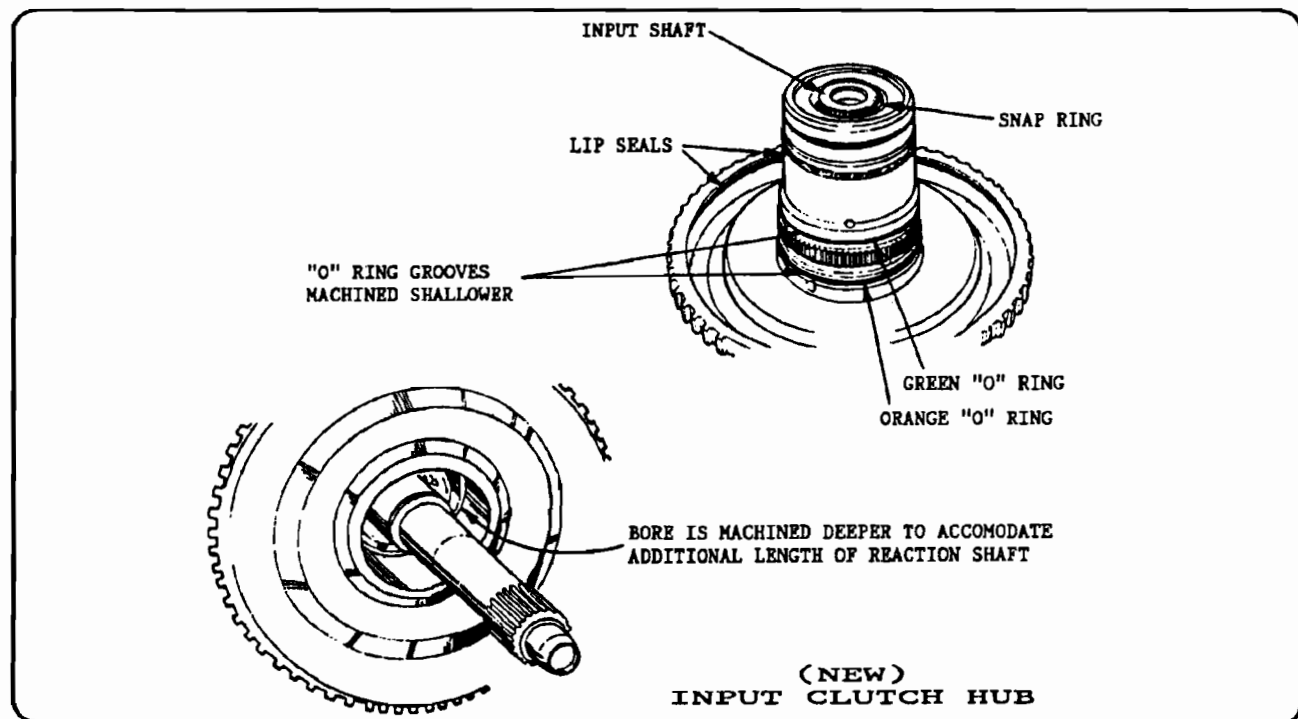

Figure 2
- (2) INPUT SHAFT/CLUTCH HUB - The new Input Clutch Hub bore is machined deeper to accommodate the additional length of the reaction shaft, created by the added sealing ring (See Figure 2).
The "O" Ring grooves are also cut shallower than the old input clutch hub, which increases the groove diameter, and provides improved compression or "Crush", between the "O" rings and the input clutch retainer. (See Figure 2).
- (3) INPUT SHAFT/CLUTCH HUB "O" RINGS - The new "O" Rings are "Teflon Coated" for greater tear resistance during the assembly process. The coatings also identify the locations for the "O" Rings. The orange ring goes to the front, and the green one goes to the rear (See Figure 2). The early "O" rings were black.